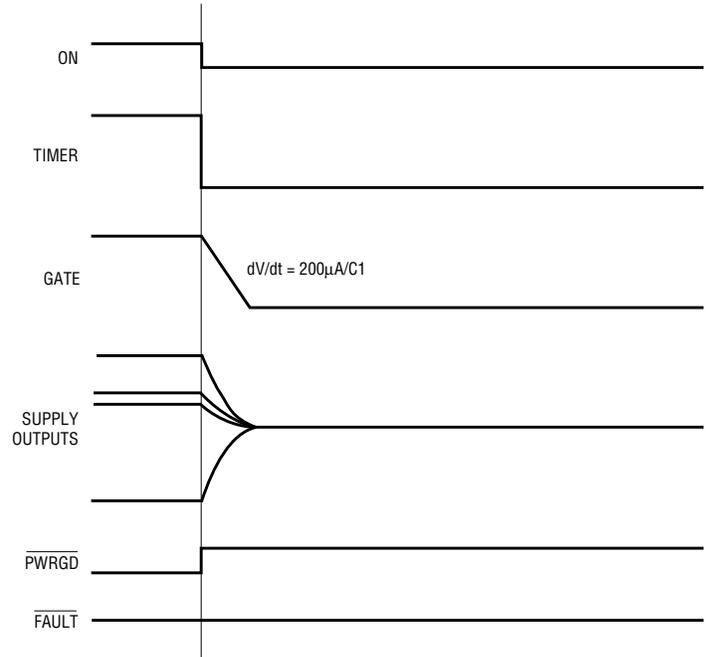

Figure 3. Normal power-down sequence
When the ON pin (5) is pulled low, a power-down sequence begins (see Figure 3). Internal switches are connected to each of the output supply voltage pins to discharge the bypass capacitors to ground. The TIMER pin (4) is immediately pulled low. The voltage on the GATE pin (11) is discharged by a  $200\mu A$  current source to prevent the load currents on the 3.3V and 5.0V supplies from going to zero